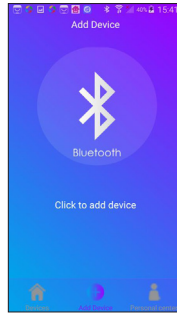

Fig. 2
Step 4. Select the access mode, WIFI or BT (fig.2). Enter access details as needed. The unit may beep and the “WIFI” light should start blinking; after which, the app should begin pairing.